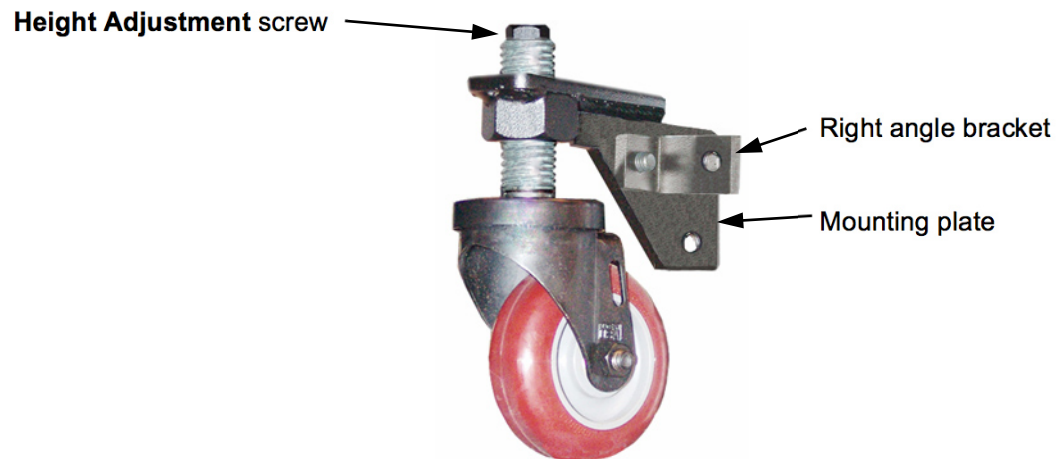

Figure 15, *Lighter System Caster Assembly*
- Step 5** Adjust caster **HEIGHT ADJUSTMENT** screw to engage caster with the floor. Reference figure 15 & 16 above.